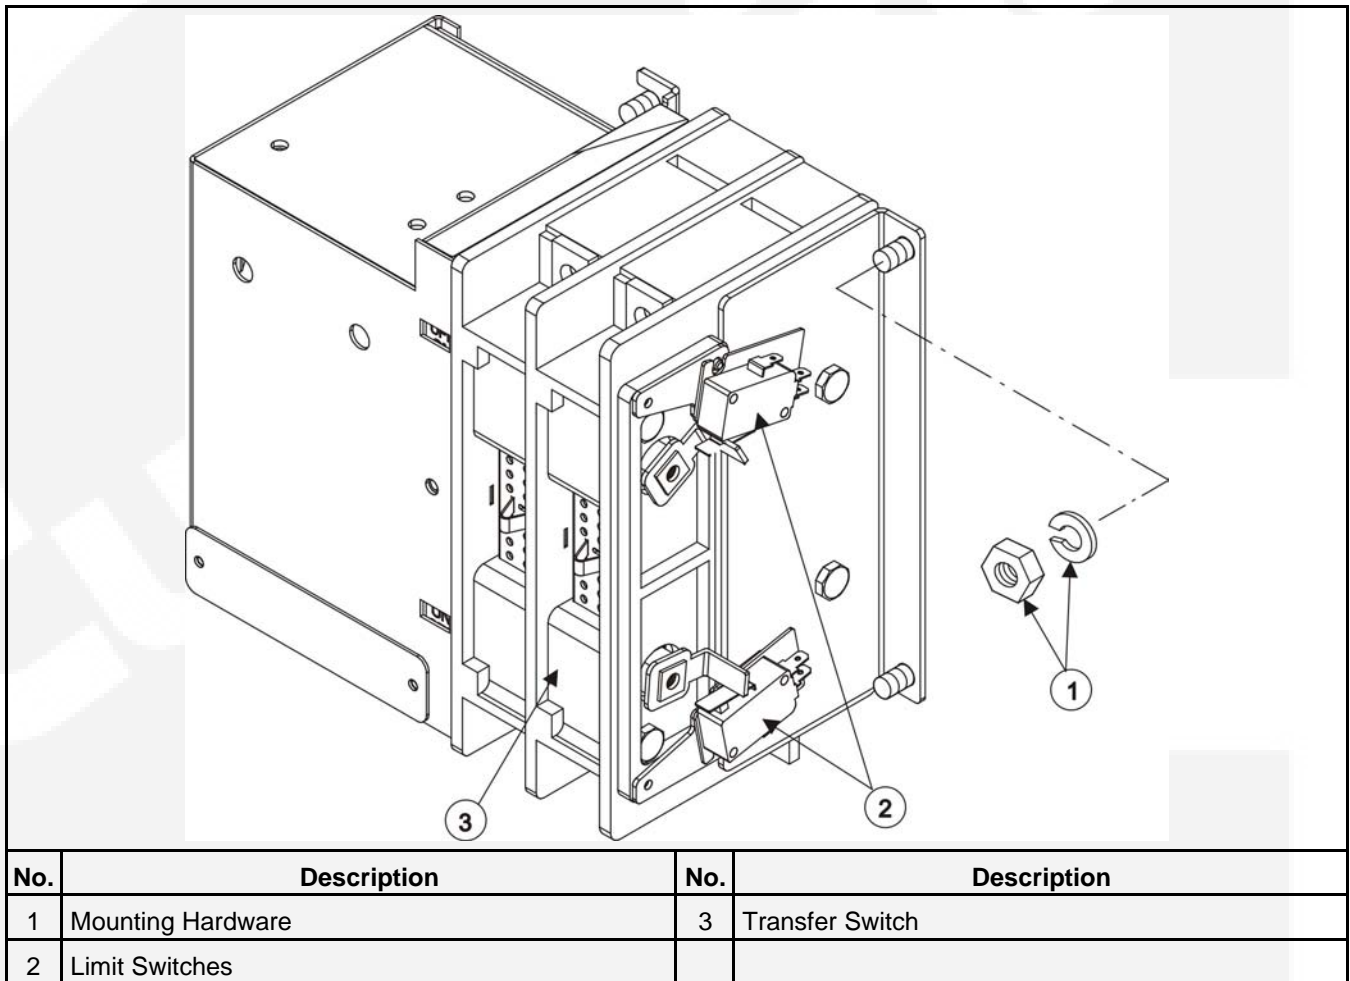
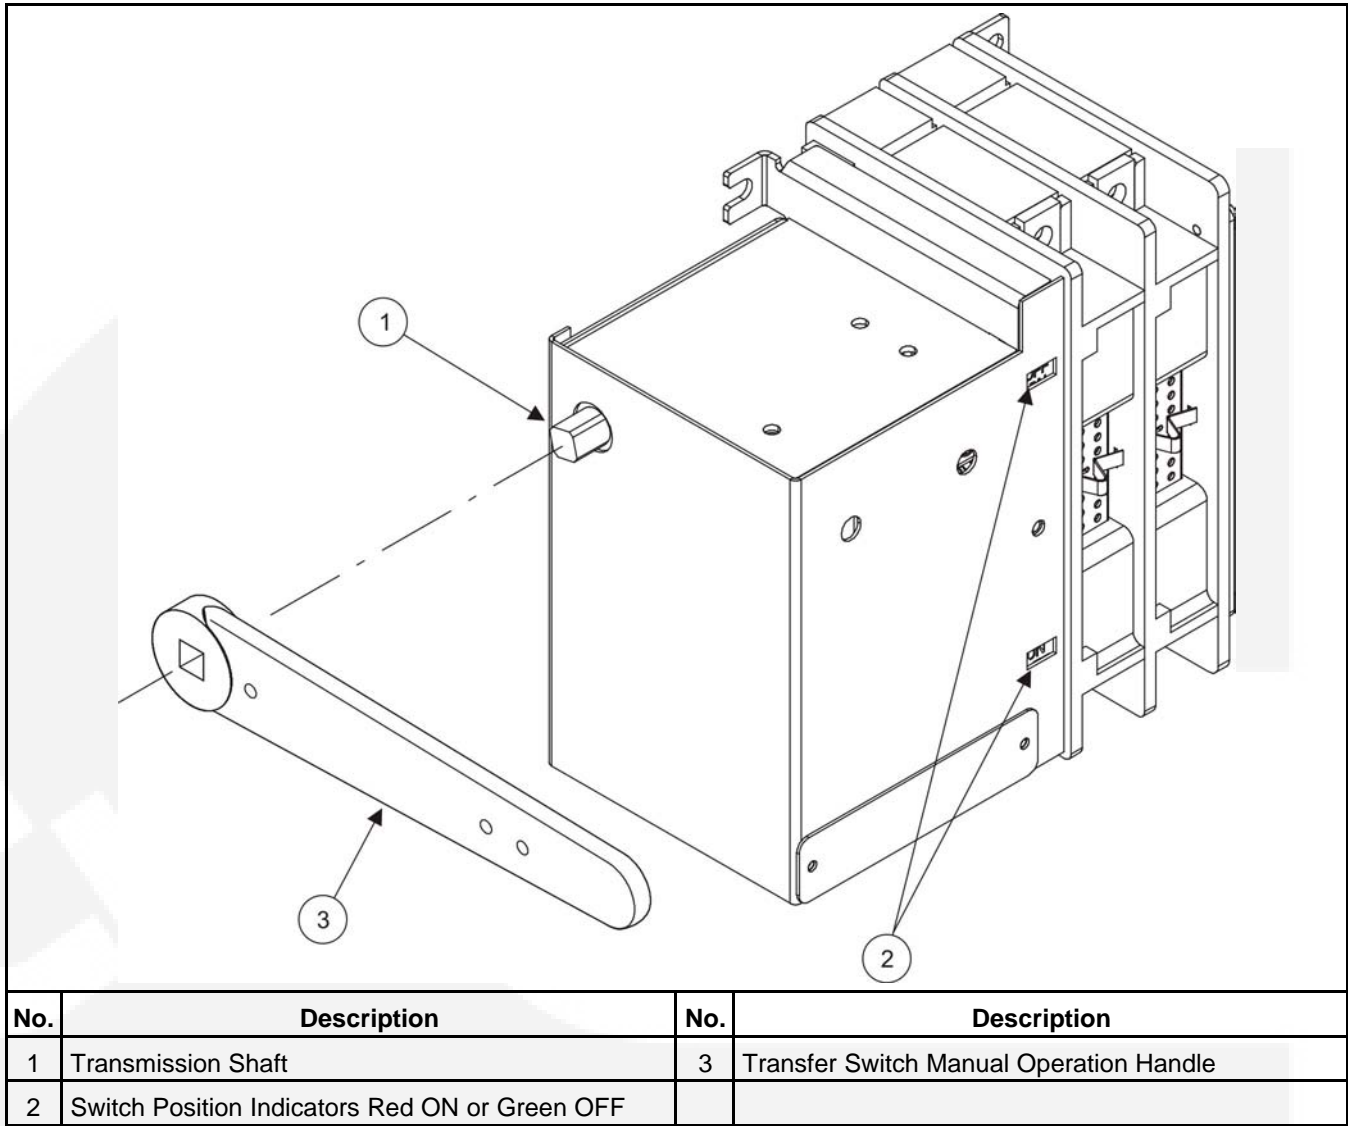

FIGURE 18. TRANSFER SWITCH REMOVAL
FIGURE 19. MANUAL OPERATION HANDLE
3. Mark and disconnect all wires connected to the limit switches; see Figure 18.
5. Install the new limit switches. Use the manual operation handle; see Figure 19 to rotate the shaft so that the limit switches are installed as shown in Figure 18.